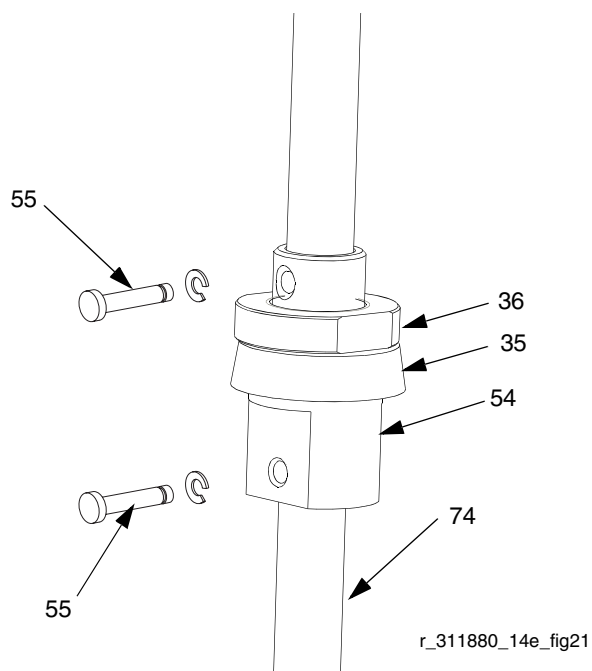

FIG. 22
9. Remove pins (55). See FIG. 22.